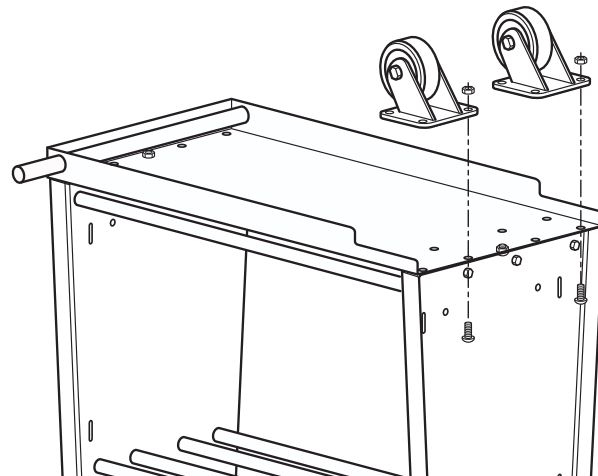

Figure 4-6
- Place the Casters (item #17) in the corners of the Base as shown in Figure 4-6. Align the caster mounting holes with the mounting holes in the Side Panel flange and Base. Attach both Casters using eight Round-Head Square-Neck Carriage Bolts (item #4) and eight M10 Nylock Hex Nuts (item #16). **Do not fully tighten nuts at this time.**